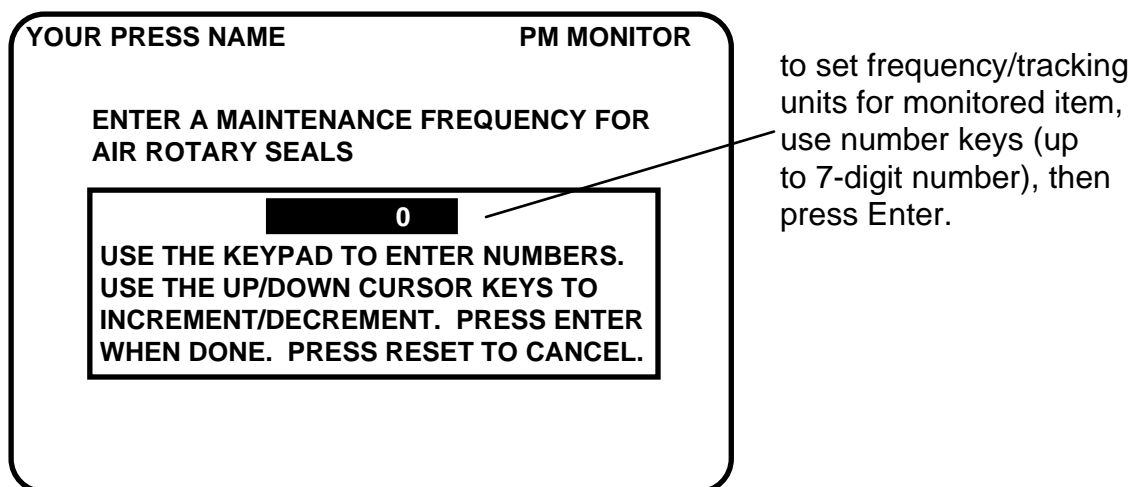

Figure A-11. Superimposed number display
- If you want to change the frequency value on a given PM item, first highlight that item, press the designated function key, and enter the PM password. The number display will be superimposed over the screen (similar to Figure A-11). Use the number keys or cursor keys to modify the tracking frequency for that PM item.